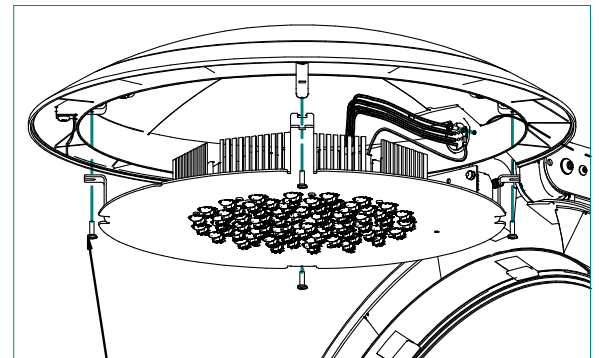

FIG. 7-2
4. INSTALL 72LED OPTICAL DECK VIA PROVIDED (4) 10-24 x 5/8 SCREWS (A84346) TO THE LED MOUNTING BRACKET AT 4 POSITIONS. (FIG. 7-2)